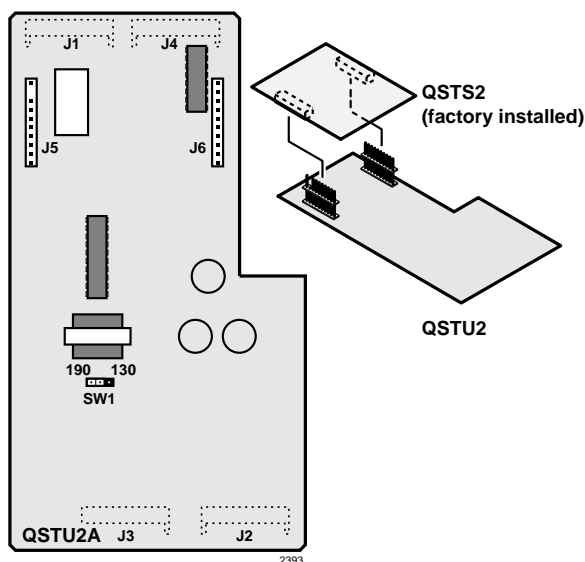

Figure 1-12 QSTU2/QSTS2 Printed Circuit Boards
2. Align the QSTU2 connectors J1, J2, J3, and J4 to the motherboard connectors J11, J12, J13, and J14 respectively. Apply firm, even pressure to ensure proper mating of the connectors (see Figure 1-12).